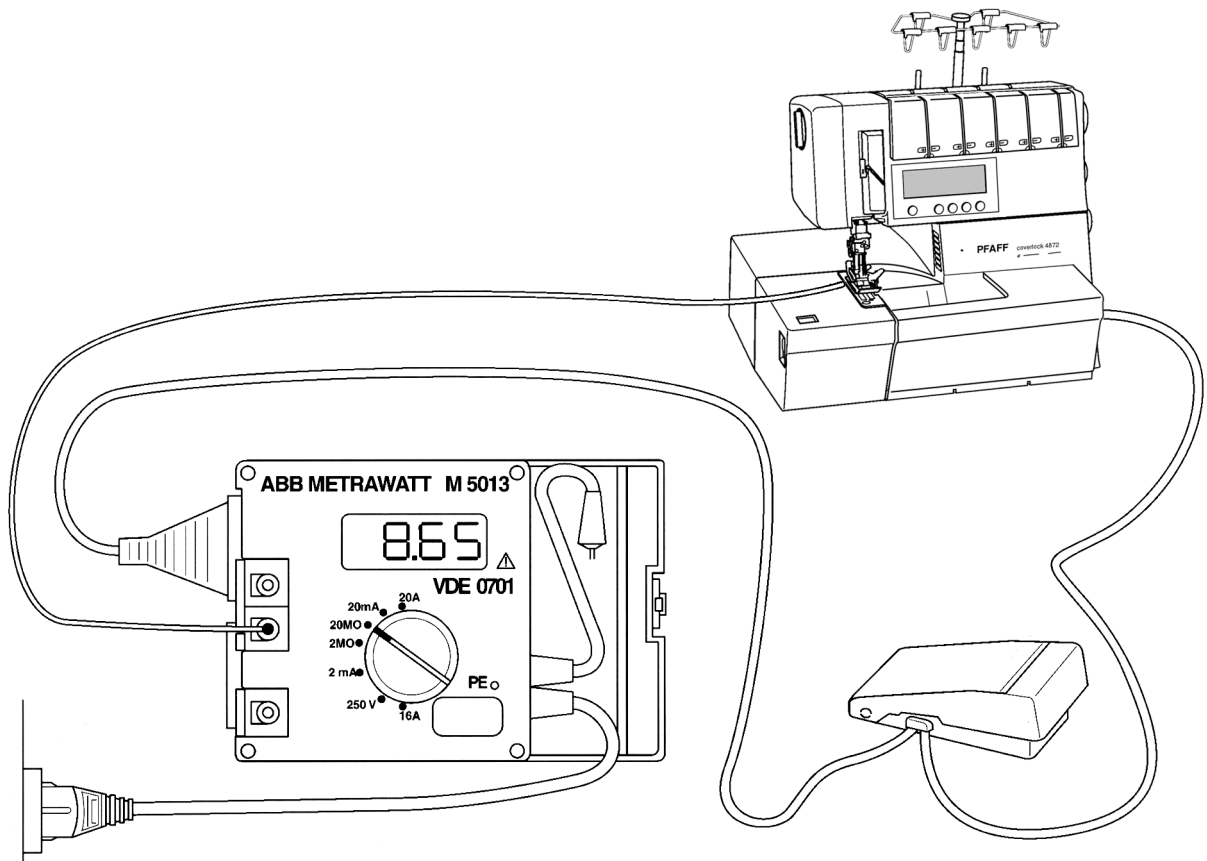

Fig. 72
- Set the switch for the measuring range at "20 M Ohm" (figure 72).